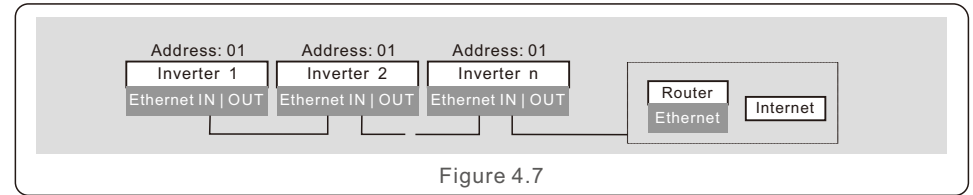

Figure 4.7
Connect in daisy chain configuration see Figure 4.7. Use the SN/QR code on the board to register the system on Solis monitoring website or APP. See APP for details.
4. Connect inverters in daisy chain configuration see Figure 4.7. An IP address will be assigned by the DHCP server. Refer to router configuration pages to find assigned IP address.